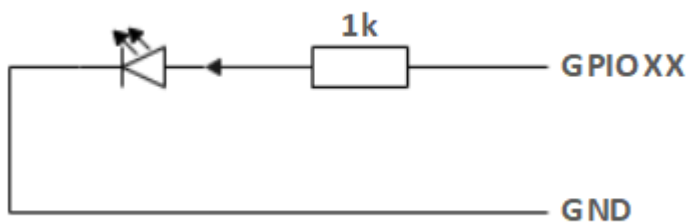

Figure 8
5. If a GPIO is set to output mode, it outputs a high-level signal, and the circuit connection is shown in Figure 8, and the LED light will light up.